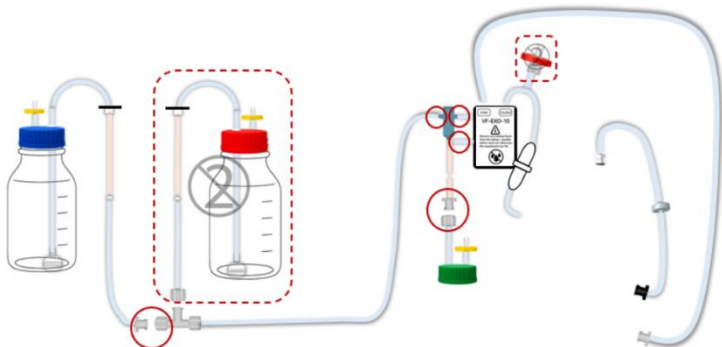

Figure 3 - Disassembling tubing for cleaning
- Disassemble the remaining tubing set into individual components by disconnecting them as indicated by the **Red Circles** in Figure 3.